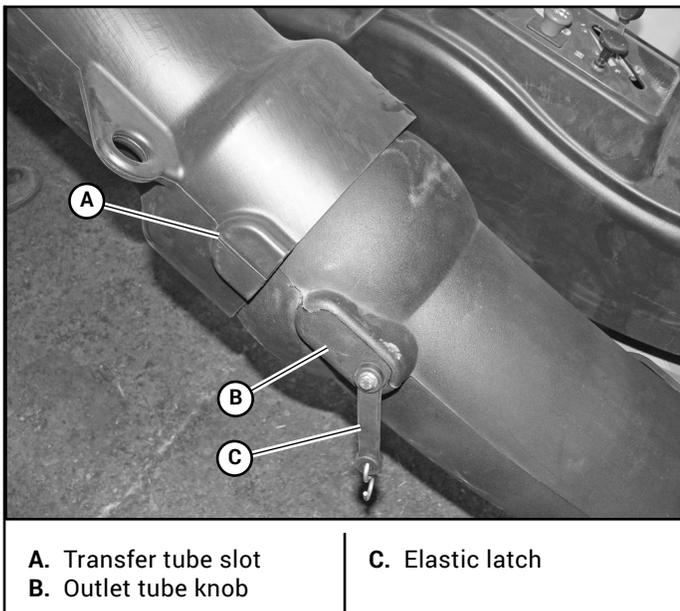

Figure 3-18
21. Attach the transfer tube to the outlet tube by aligning the slot on the transfer tube with the knob on the outlet tube and hooking the elastic latch through the loop of the transfer tube. Figure 3-18 & Figure 3-19